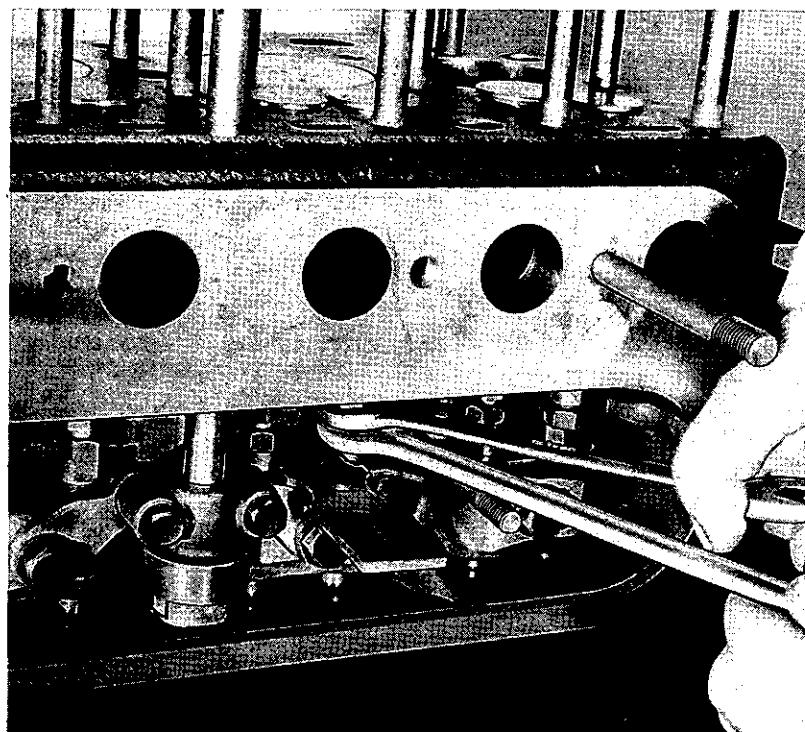

Fig. 21. Adjusting valve tappets with two spanners and tappet loc.
2. Slacken off the lock nut on the tappet which is being adjusted with a suitable spanner ( $\frac{1}{2}$ " A/F) whilst preventing the tappet from rotating by either the engagement of a spanner on its two flats ( $\frac{13}{32}$ " A/F) or the employment of suitable wedge pieces inserted between the two tappets as shown in Fig. 21. Having slackened off the locknut another spanner should be used to rotate the lock nut, ( $\frac{7}{16}$ " A/F) until a clearance of .015" is provided. Having obtained the correct clearance the lock nut should be secured, whilst preventing any movement of the tappet and adjuster screw. After tightening the locknut recheck the clearance with a .015" clearance gauge and ensure that this gauge is a push fit between the valve stem and adjuster